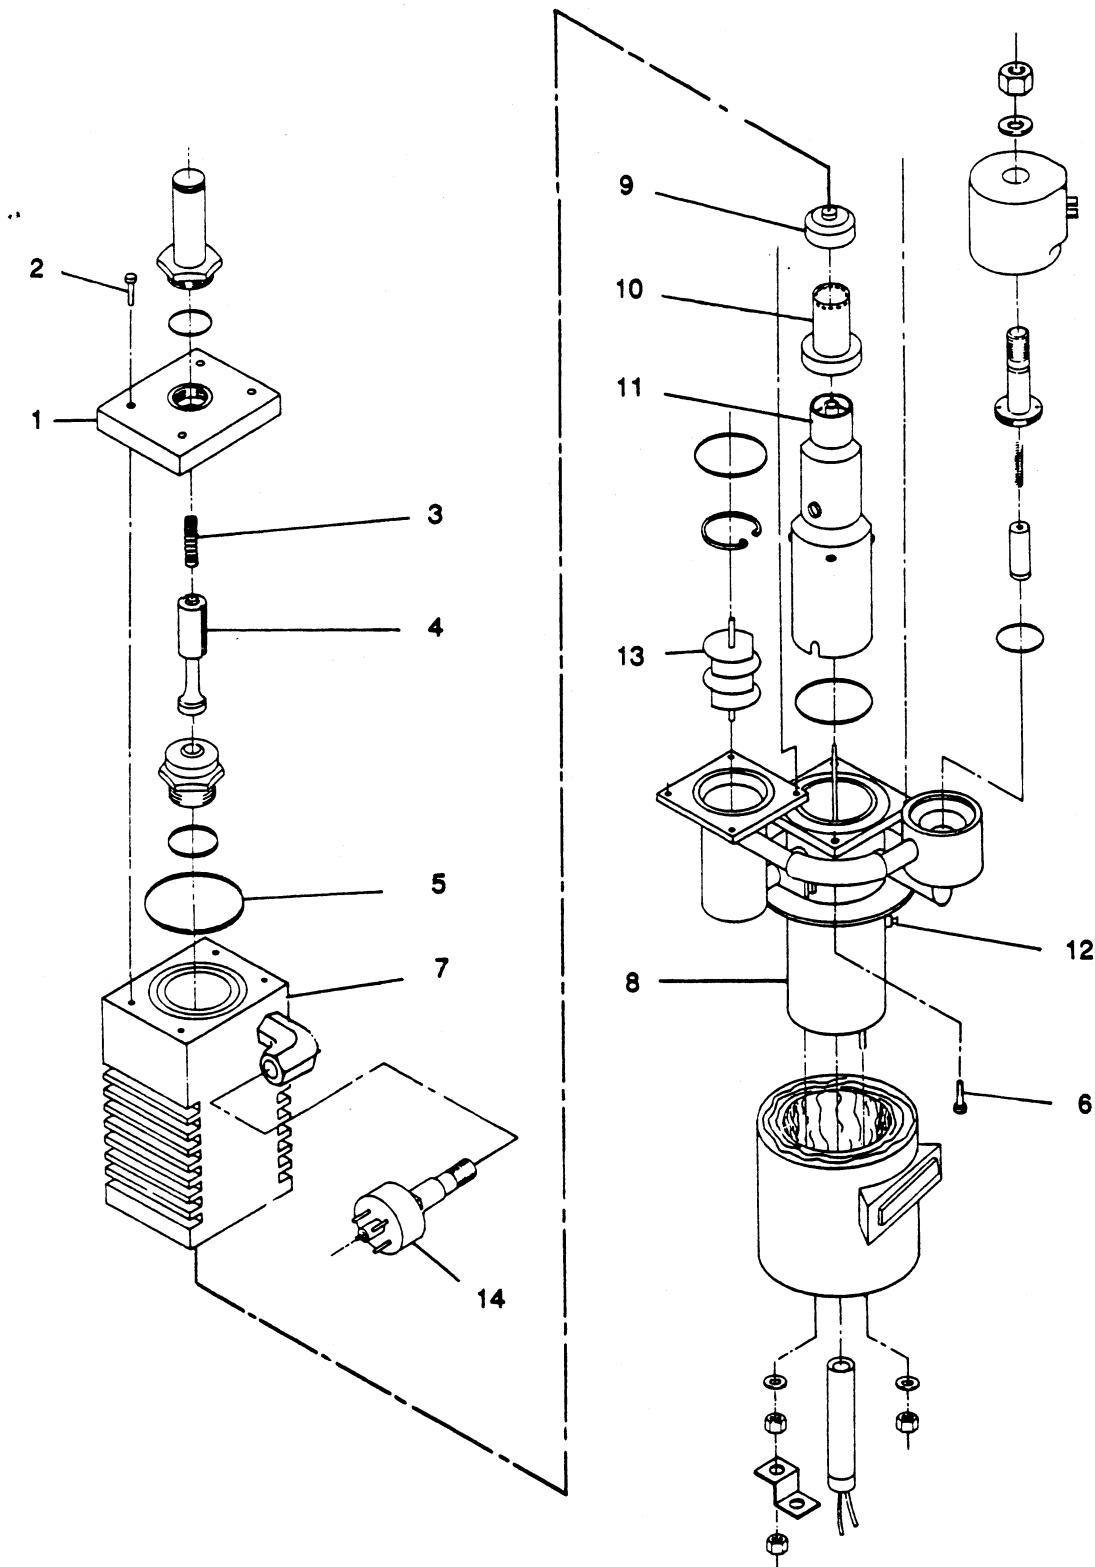

Figure 5-8. Exploded view of diffusion pump
- 1 Remove the system thermocouple gauge (14, Figure 5-8) by unscrewing it from its elbow.
#### **5-3-18 Assembly of the Diffusion Pump (Figure 5-8)**